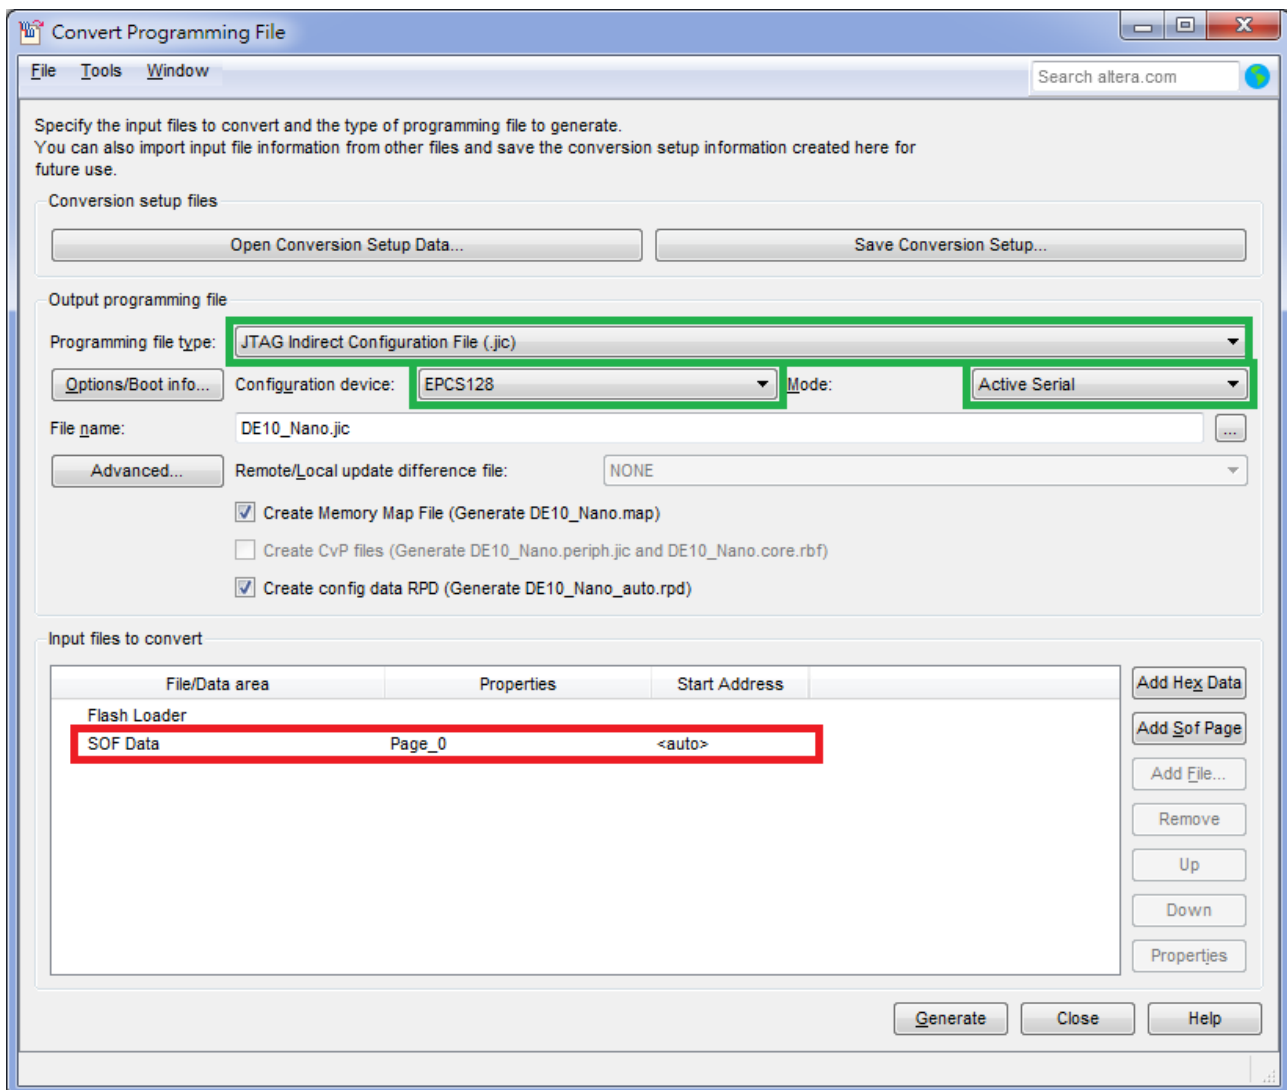

Figure 8-3 Dialog of “Convert Programming Files”
- Click on the SOF data in the section of Input files to convert, as shown in **Figure 8-3**.